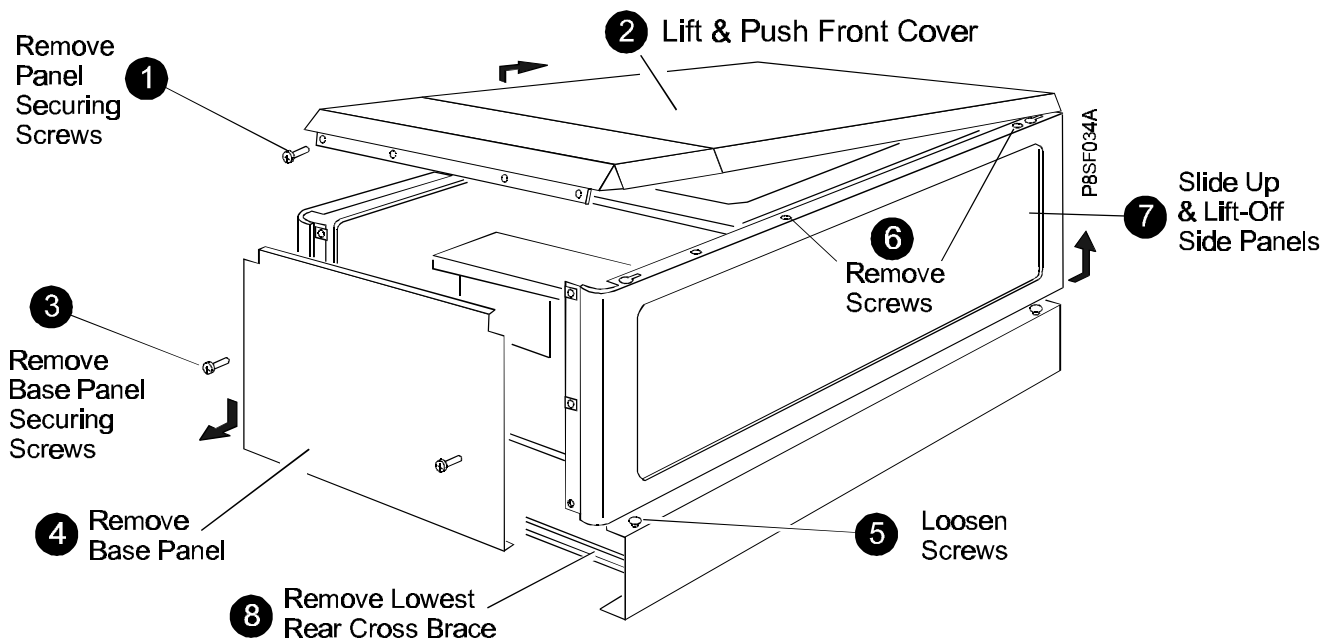

Fig 15
- b) Remove the white front case as follows; undo the two securing screws at the base of the panel, pull the base of the panel forward approx. 50mm and lift off the supporting top hooks. (Fig. 15)